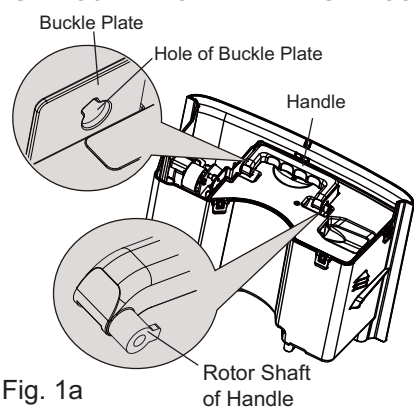

Fig. 1a
(1) Direct the rotor shaft of handle to the hole of buckle plate. Pull the bucket plate at the handle side by following the arrow direction. Remove the handle. (shown in Fig. 1a, Fig. 1b, Fig. 1c)